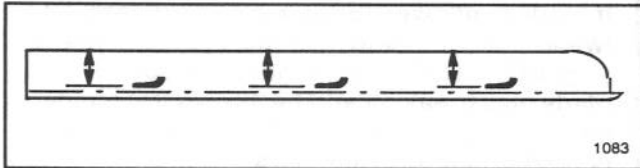

Figure 12
2. Rotate blade(s) until the ends face forward and backward. Measure from inside of cutting unit to cutting edge at front of blade (Fig. 12), and remember this dimension.